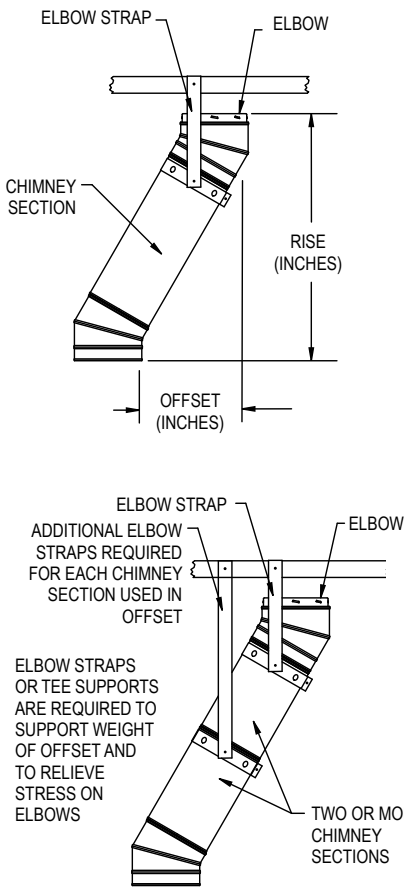

Figure 15
Strap, Tee Support, or similar support method to support the weight of the pipe and to relieve stress on the Elbows. Attach the second Elbow above the Chimney Section to complete the offset (**Fig 15**).
least (2) 8-penny nails or (2) #8, 1-1/2 screws. Do not add more Chimney Sections until the Elbows are supported. Be sure that the chimney remains vertical. If there is more than one Chimney Section between the Elbows, install a second Elbow Strap around the joint of the two Chimney Sections (**Fig 15**).